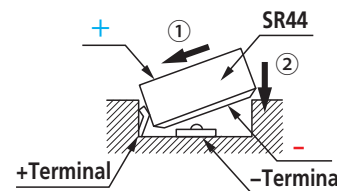

Fig. 1
3. Install an SR44 battery (**Order No. 938882**) with the positive side of the battery uppermost. (**Fig. 1**)